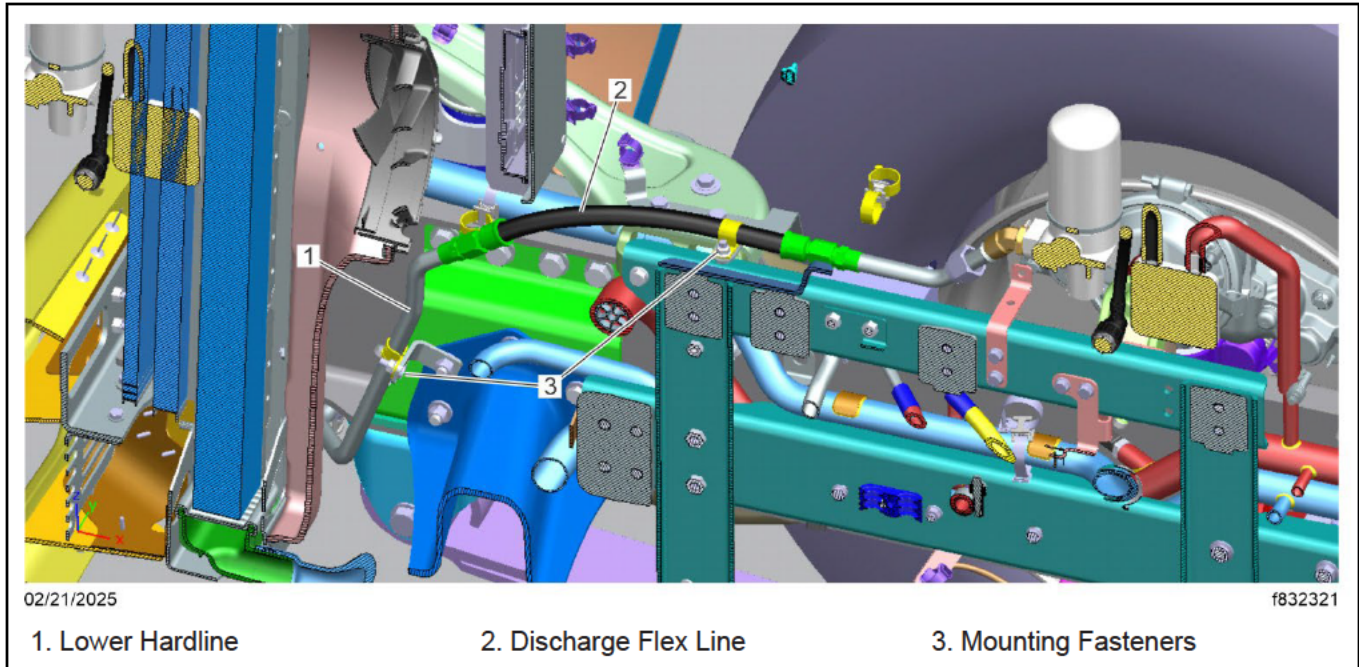

Fig. 6, Installing the New Discharge Line Routing
12. Install the new discharge flex line and the lower hardline. See **Fig. 6**.
13. Install the P-clamp fasteners, shown in **Fig. 6**.